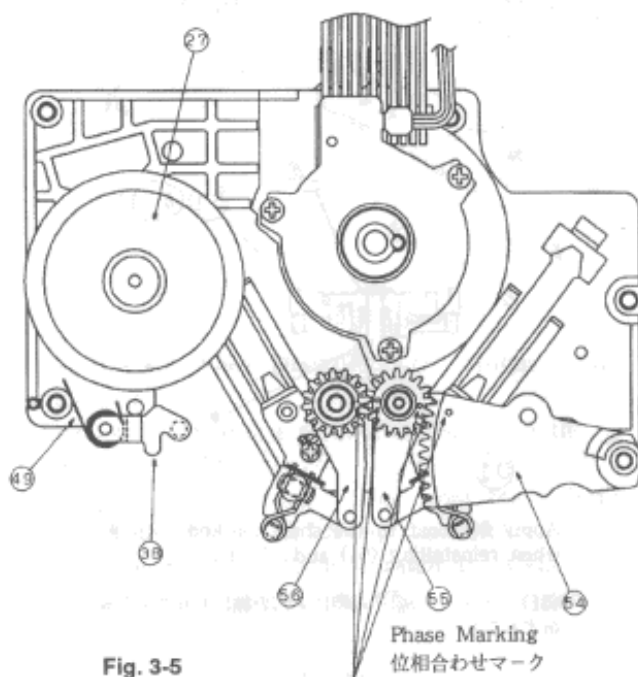

Fig. 3-5
- See that the phases of the Gear Arm, L1 (IN) Arm, and L1 (OUT) Arm are matched with each other, as shown in Fig. 3-5.
- Gear Arm, L1 (IN) Arm, L1 (OUT) Armの位相は Fig. 3-5を参照。